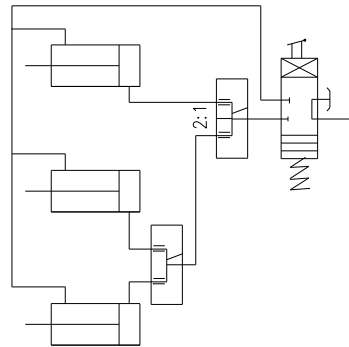

Figure 4, Proportional three cylinder synchronization sample
3. Three synchronous cylinders connect as shown in figure 4, it is best to mix the positive and negative error of the valve to improve the accuracy. But if connect as shown in figure 4, the first level must be proportional (2:1) self regulating synchronous valve.